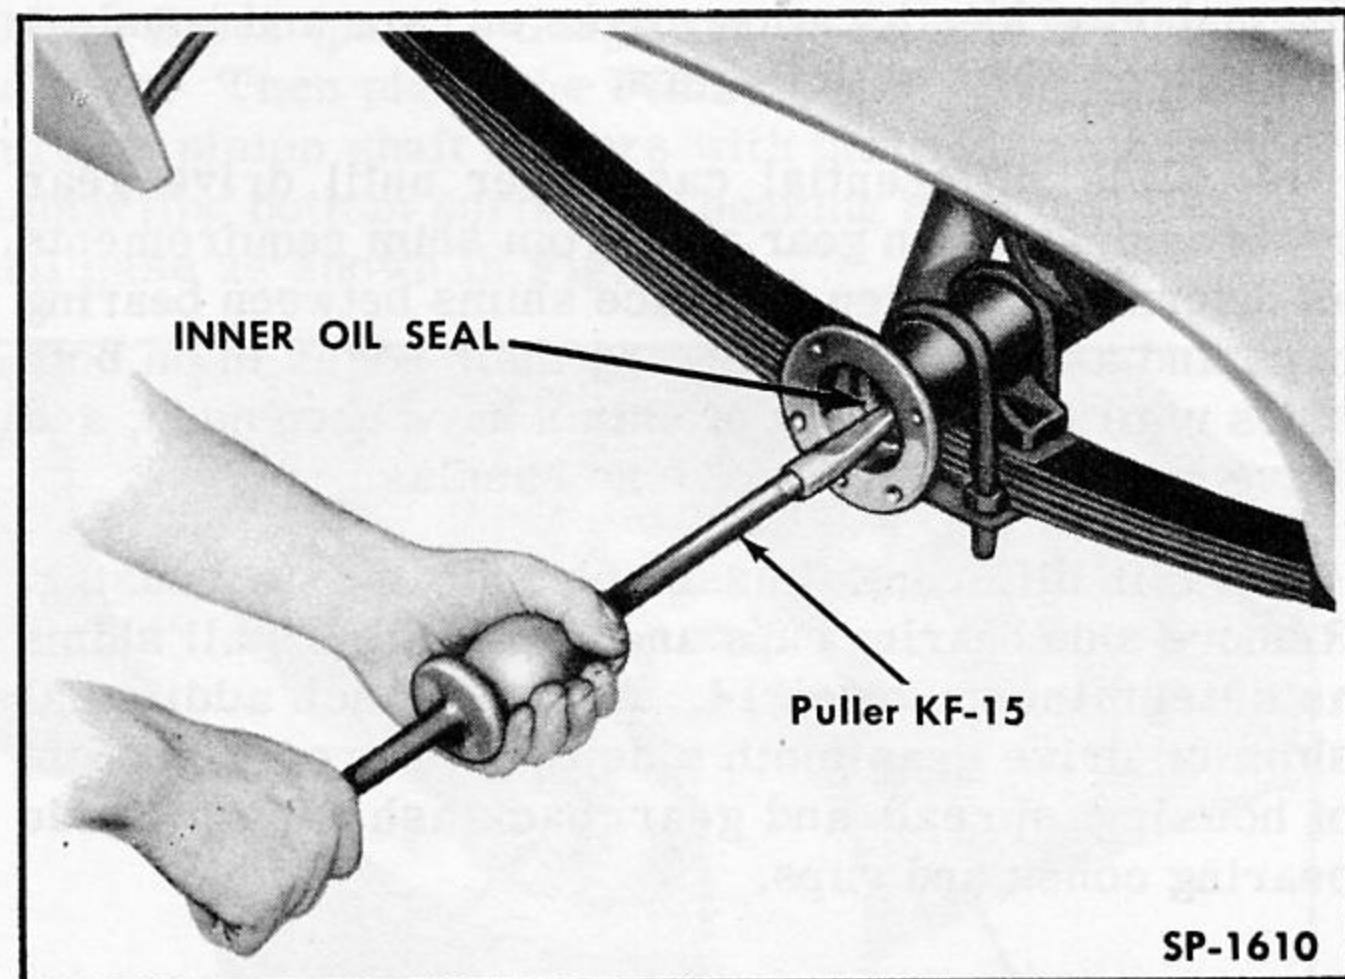

Fig. 188—Removing Axle Shaft Inner Oil Seal
8. Remove inner oil seal, using Puller KF-15 with hooked adapter (Fig. 188).